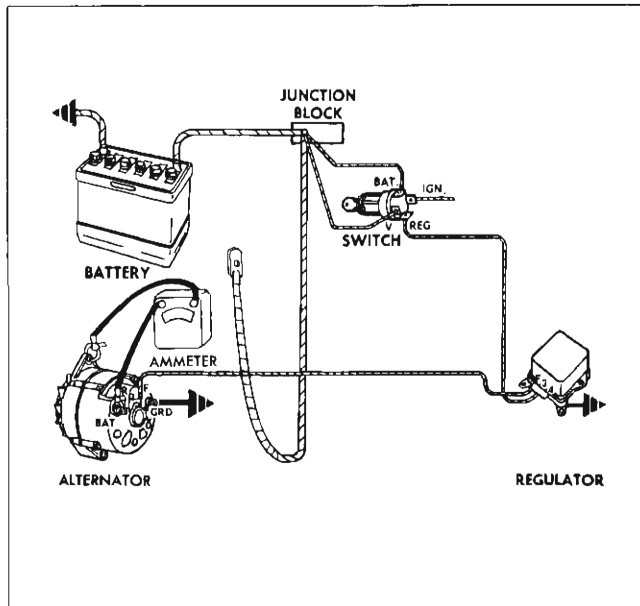

Fig. 11-28 Ammeter Measuring Output
- 5. Move ammeter lead from positive battery terminal to alternator frame (Fig. 11-28). Start engine and increase to 2500 rpm.